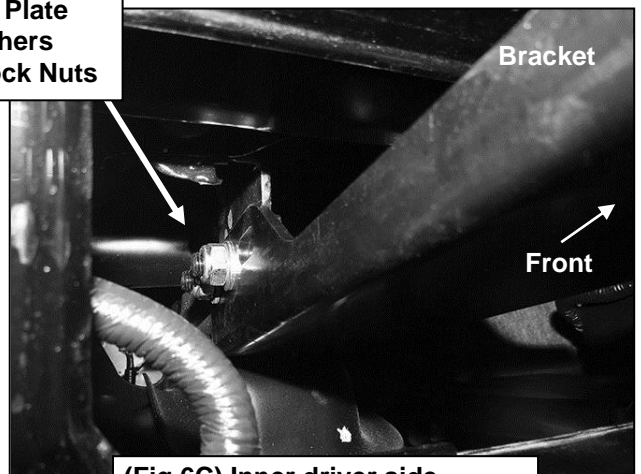

Fig 6A
3. Line up the holes in the Bracket with the holes in the end of the frame channel for the tow hook. Select (1) 12mm Double Bolt Plate, **(Figure 6A)**. Insert the Bolt Plate into the end of the frame, through the (2) holes in the side of the frame and out through the Bracket, **(Figures 5, 6B & 6C)**. Secure the Bracket to the Bolt Plate with (2) 12mm Flat Washers and (2) 12mm Nylon Lock Nuts, **(Figure 6B)**. Snug but do not fully tighten hardware at this time.